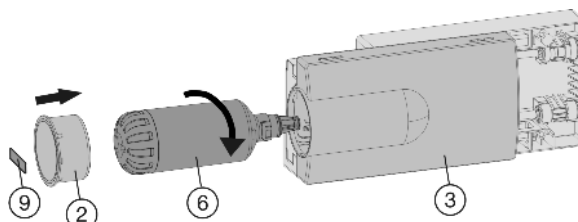

Fig. 58
- ▶ Place the tray cover *Fig. 58 (3)* in position.
- ▶ Insert the water filter *Fig. 58 (6)* and turn it approximately 100° to the right until it locks into position.
- ▶ Place the cover *Fig. 58 (2)* on the filter.
- ▶ Write the date of the next filter replacement on the supplied adhesive label *Fig. 58 (9)* and affix it to the module.